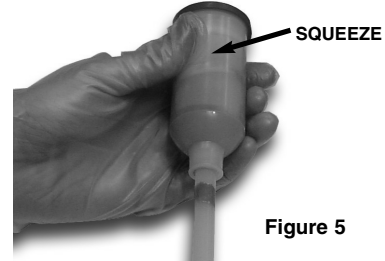

Figure 5
7. Squeeze the cartridge in the area of the removed tape band to deform the foil barrier between the two materials. See Figure 5.